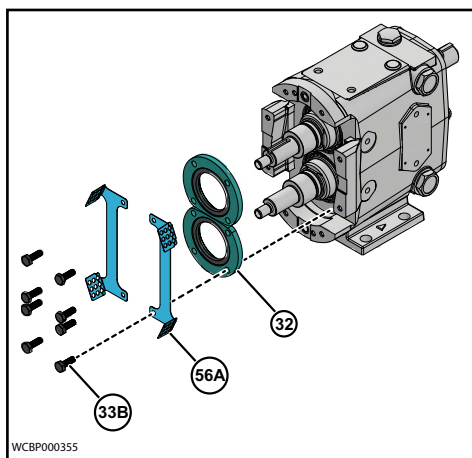

Figure 46 - Remove Seal Guard and Bearing Retainers
NOTE: The Figure 46 is shown for reference only. This step applies only to rectangular flange bodies.
- Remove the front bearing retainer screws (33B) and pull off the Seal Guard-Vertical (56A) and bearing retainers (32) (Figure 46). If a retainer is stuck, leave it in place; it will press out when the shaft is removed.